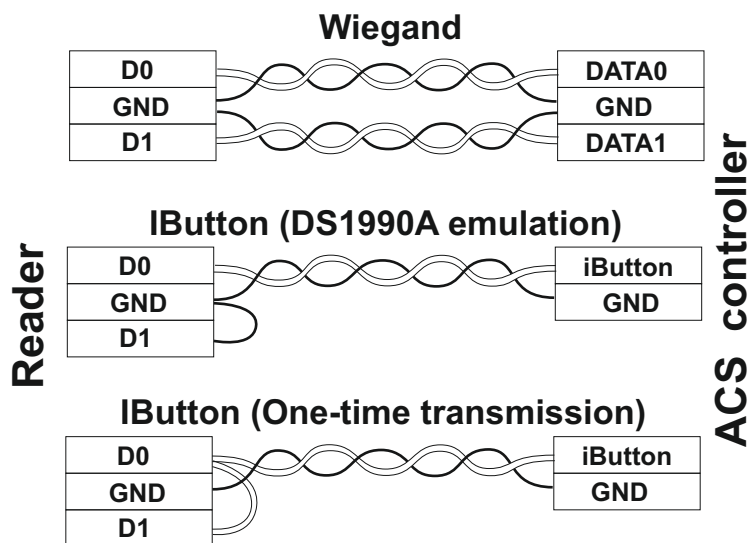

Figure 1. Choosing the transmission protocol.
- When using Wiegand 26 protocol, the first twisted pair is connected between GND and DATA0, and the second one between GND and DATA1, as per Fig. 1.